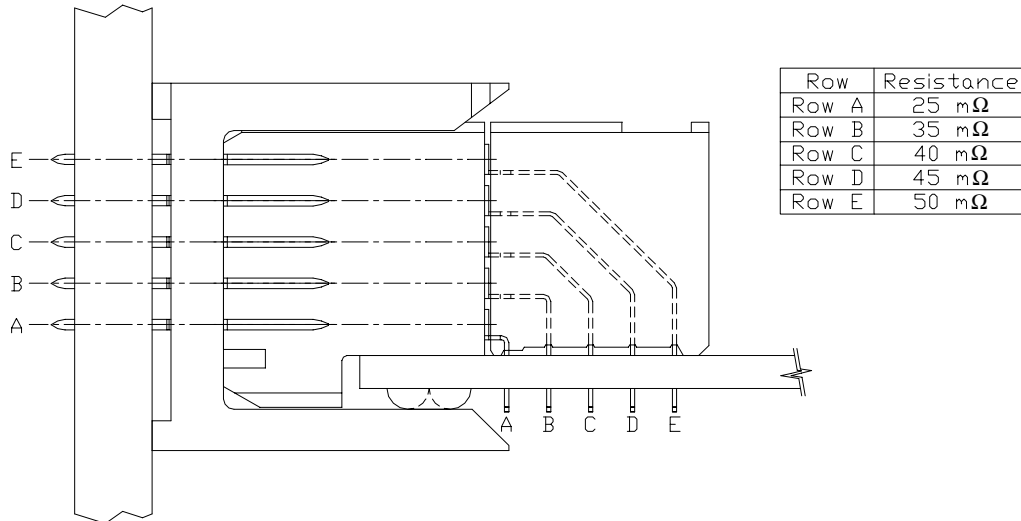

Figure 7 - Mated header and receptacle showing maximum bulk resistance per row.
- The bulk resistance will vary from row to row. The maximum bulk resistance is 10 mW/contact. The typical values of bulk resistance is given in the table in Figure 7.